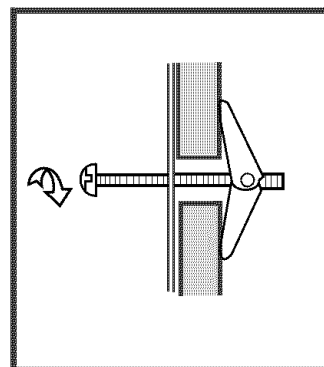

Figure 19
5. Align the Mounting Plate carefully and hold in position while tightening Toggle Bolts. Pull Toggle Bolt toward you and turn clockwise to tighten. Figure 19.